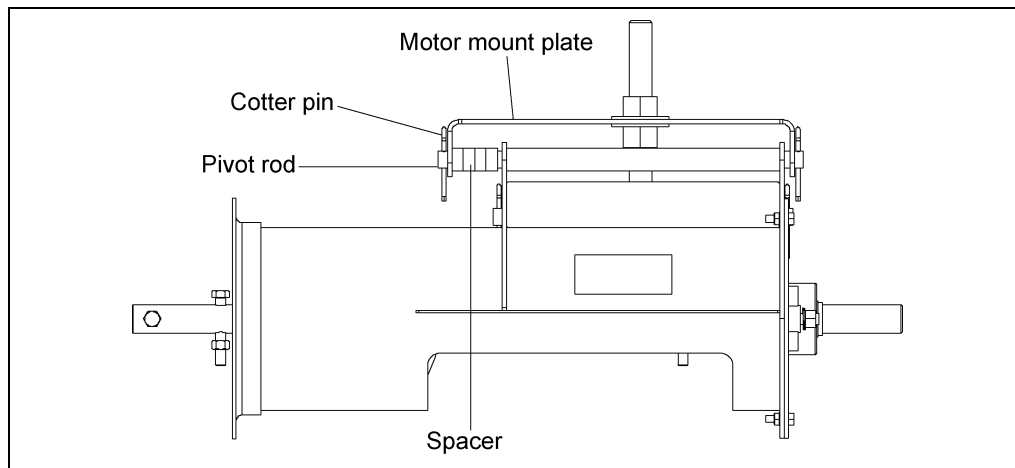

Figure 4F
- When the pivot rod begins to extend through the pivot tube install the spacers, **BETWEEN** the back plate and the inner face of the motor mount plate. (See Figure 4F.)